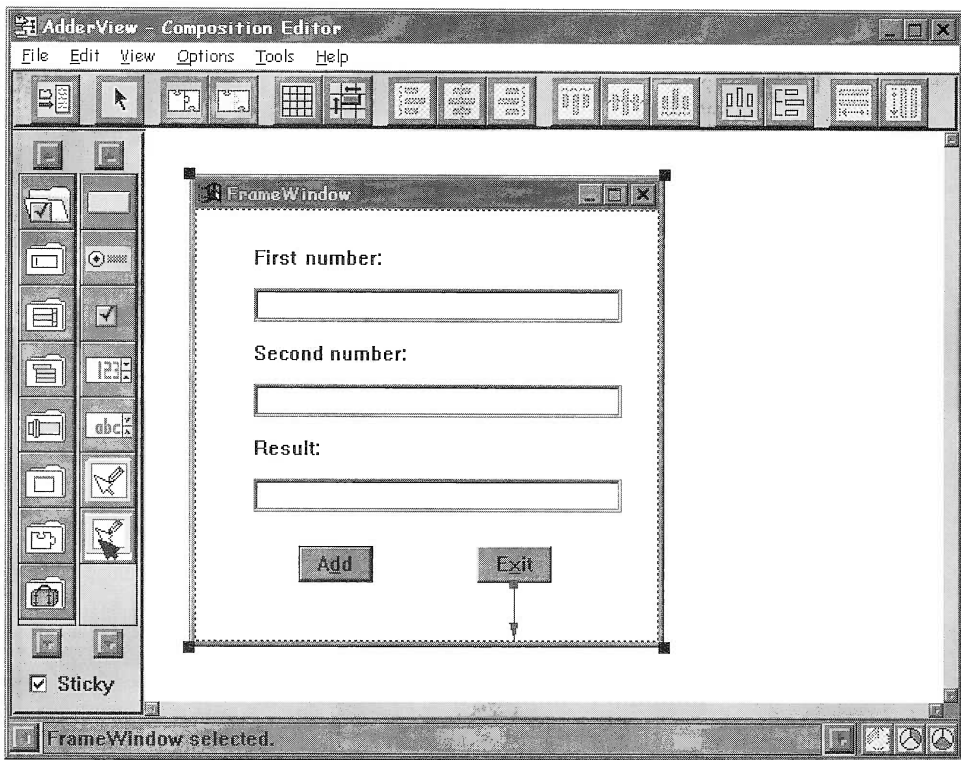

Figure 52: pbExit connected to IFrameWindow close
- ❑ Press the left mouse button and complete the connection to the frame window's **close** action as seen in Figure 52.